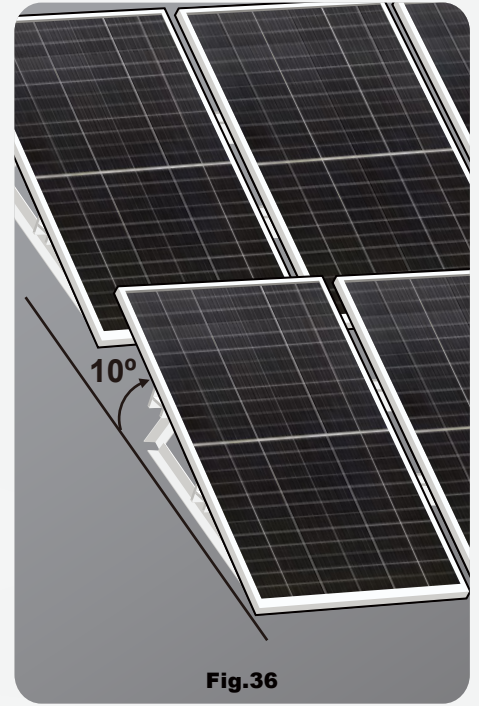

Fig.36
**(Fig.36)** AE Solar recommends a minimum tilt angle of  $10^{\circ}$ , so module surface dust can be naturally washed away by rainfall, reducing the required frequency for cleaning.